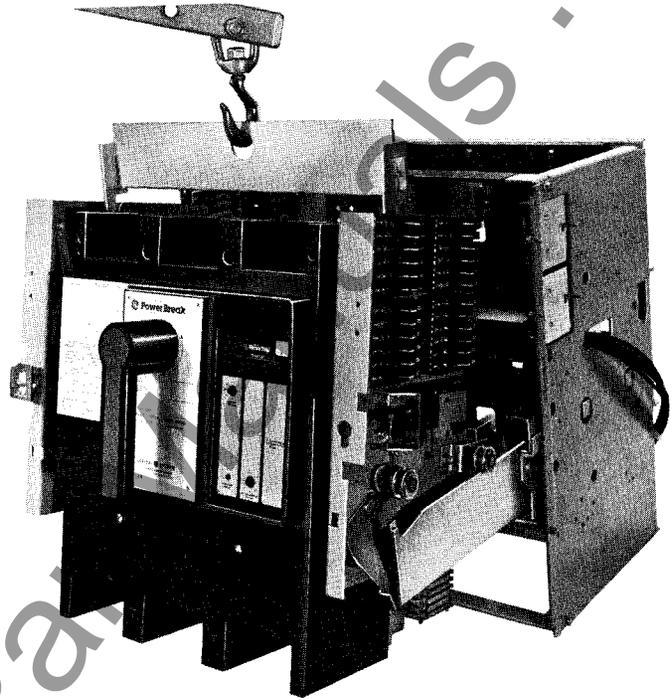

Fig. 5
2. Pull out the rails as far as possible until they drop into the horizontal locked position. Lower breaker until grooves in the rollers drop over rails. (Fig. 5).
5. The breaker can now be rotated by pulling forward, (Figs. 10 & 11), for inspection of rear of breaker, or it can be completely removed using the lifting bar as shown in Fig. 5.